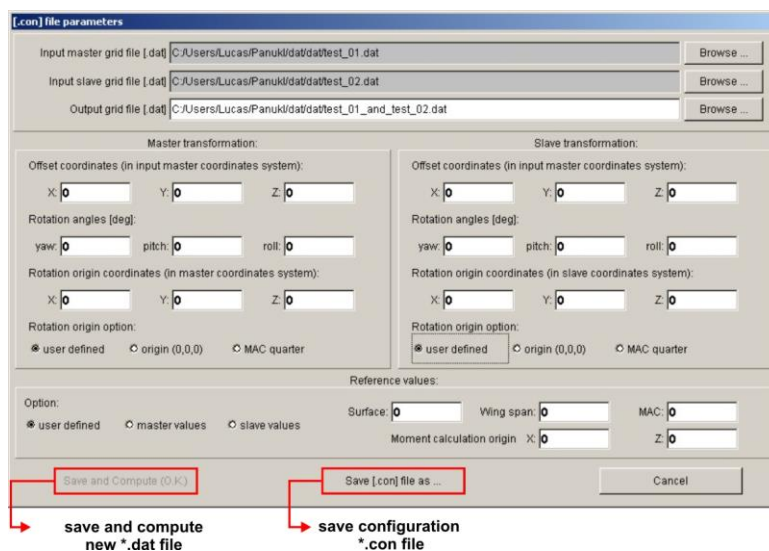

Fig. 25 – Dialog window to configure the procedure of connection two grids
The command runs dialog window to configure and call Connect program (Fig. 25), which is used to connect two grids with vortex wakes [.dat].
Run **CONNECT TWO GRIDS** and select saved configuration file **[.con]** – file contains all necessary information to create **[.dat]** file (which will be an assembly of two existing grids). To open selected **[.con]** file click **OPEN** button. Configuration window will appear (Fig. 25) where one can see saved **[.dat]** file creation options. To generate **[.dat]** file click **Save and Compute (OK)** button.